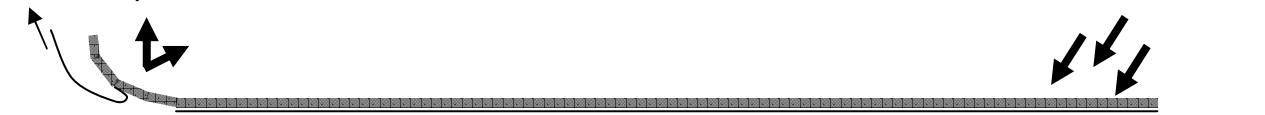

FIG. 4
- 13) ENSURING THAT THE TOP OF THE PANEL IS SECURE, (one person keeping a little weight on it to stop any movement) LIGHTLY ROLL THE PANEL UP FROM THE BOTTOM (KEEP THE ROLL ABOUT 500mm IN DIAMETER) TO THE TOP. KEEP ROLLING UNTIL YOU COME ACROSS THE SEMI-ATTACHED 300mm TOP SECTION OF PANEL (FIG.4)